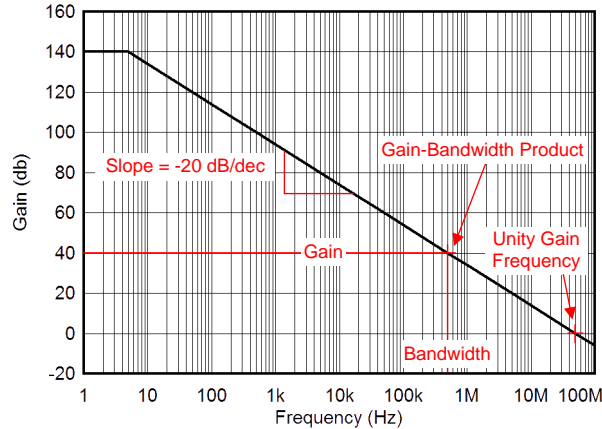

图 53. Gain-Bandwidth Product and Unity Gain Frequency
The parameters of an amplifier that best describes the small signal dynamic behaviour are the gain-bandwidth product (GBP), unity gain frequency (UGF) and phase margin (PM) of an amplifier. The GBP is a useful parameter to determine the bandwidth of an application in closed loop configurations. 公式 3 can be used to approximate the closed loop bandwidth for the OPA828. Typically the GBP is a specified parameter with the amplifier configured in a non-inverting gain of 100 (40 dB). The GBP of an amplifier is generally assumed to be constant over frequency but in some higher speed amplifiers this is not always the case. The OPA828 has a constant GBP all the way to its UGF, as such the OPA828 open-loop gain has a constant -20 dB/decade slope (-6 dB/octave). The UGF is defined as the frequency at which the gain of the amplifier crosses $1V/V$ (0 dB). 图 53 illustrates the concept of GBP and UGF. The OPA828 has both a GBP and UGF of 45 MHz.